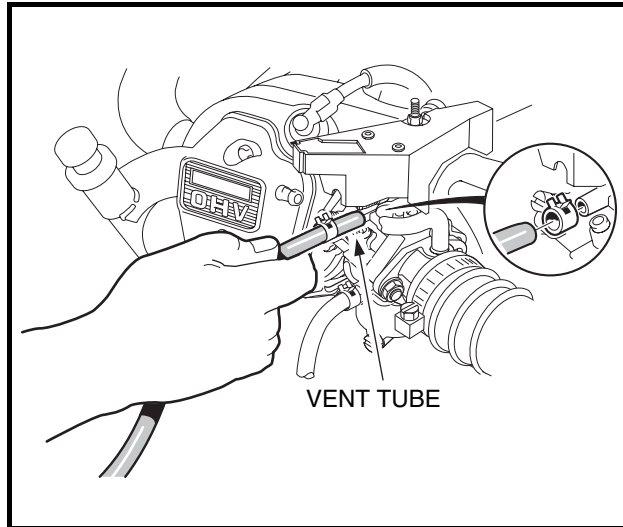

Figure 18-9 Fuel Vent Tube
- Disconnect the carburetor vent tube from the carburetor (**Figure 18-9, Page 18-7**).